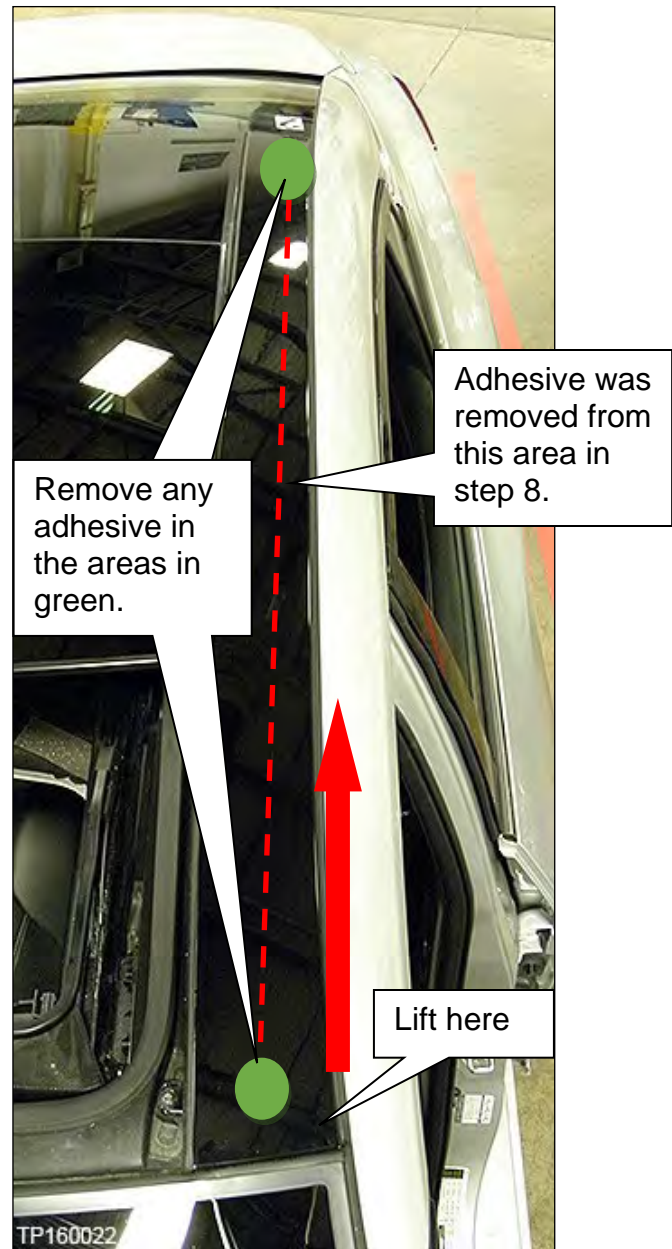

Figure 32
12. If the roof finisher will still not release after the pins have been released, cut away any adhesive under the roof finisher indicated by the green circles as shown in Figure 32.